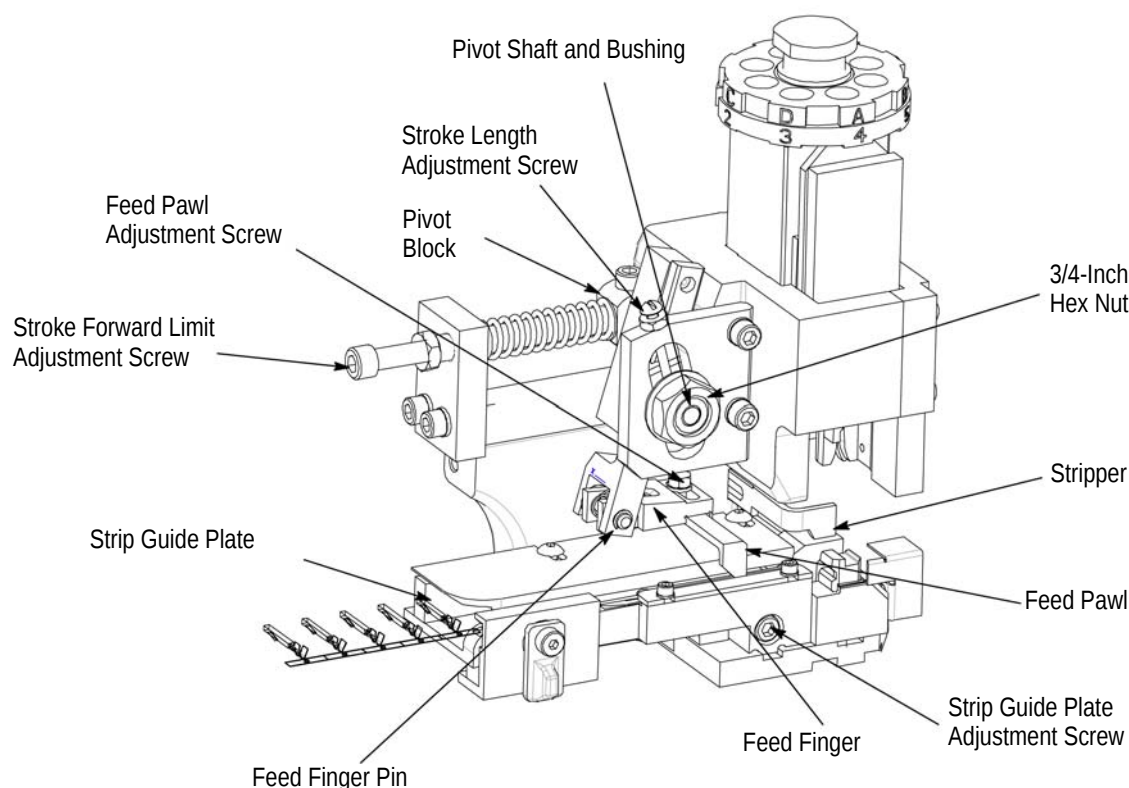

Figure 2
3. Loosen screw on top of pivot block (see Figure 2). Turn the stroke forward limit adjustment screw COUNTERCLOCKWISE to move the forward limit toward anvil, or CLOCKWISE to move the forward limit away from anvil. Tighten screw on top of pivot block.
a. Applicators with mechanical-feed systems (Figure 2) -
- 1) Loosen slightly the 3/4-in. hex nut, on side of applicator, to allow the pivot shaft to move in slot (see Figure 2).